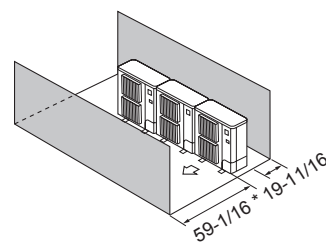

Fig. 2-15
④ Obstacles at front and rear (Fig. 2-15)